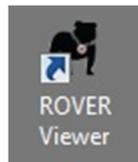

Figure 1
2. Double-click the R'Over™ Viewer shortcut icon to start the application (Figure 1).